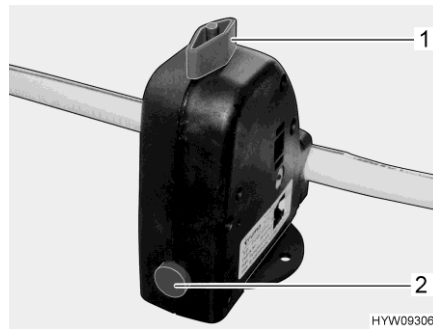

Fig. 166 Safety/drainage valve (boiler)
The boiler is equipped with a safety/drainage valve (Fig. 166). The safety/drainage valve prevents water in the boiler from freezing, when there is frost and the heater is not switched on.
- Close the safety/drainage valve. Turn the knob (Fig. 166,1) perpendicular to the safety/drainage valve and push the push button (Fig. 166,2) in.
- Open the safety/drainage valve. To do this turn the knob (Fig. 166,1) parallel to the safety/drainage valve. The push button (Fig. 166,2) jumps out. The boiler is drained to the outside by the safety/drainage valve.